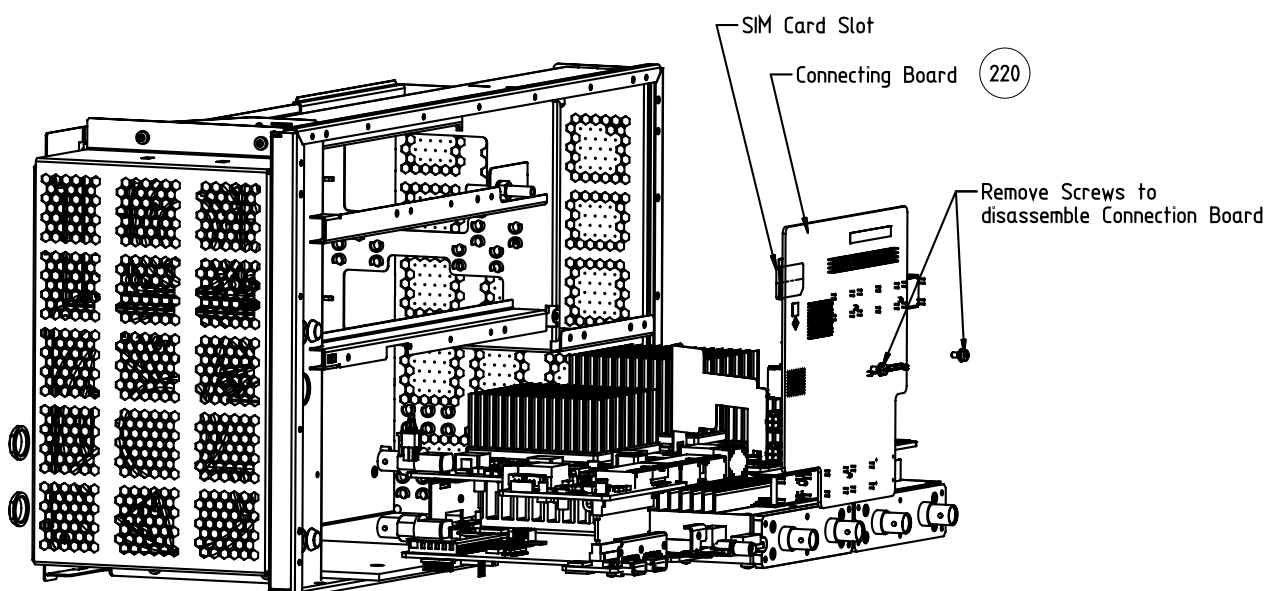

Figure 4-1: Connecting board
7. Remove the 2 screws. See Figure 4-1.